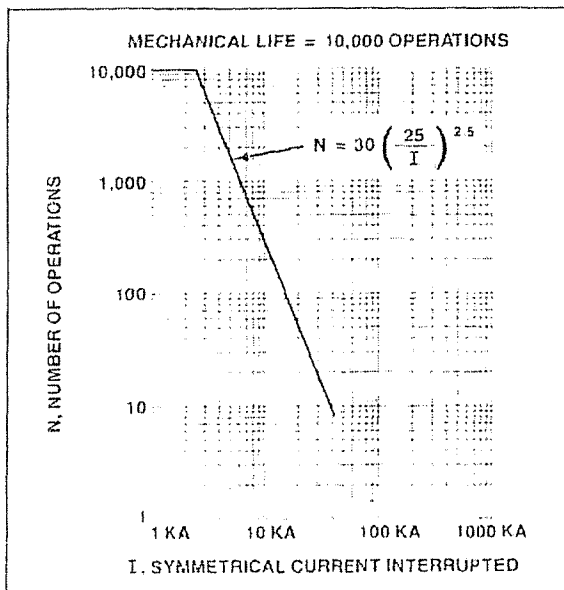

Figure 13
An operations counter counts the number of close-open cycles. The counter advances by one on the opening stroke. The breaker mechanism is capable of at least 10,000 close-open cycles, however, the life of the interrupters can be considerably less depending upon the amount of current switched with each operation. See Figure 13 for specific life-load information.
4.1.2 ARCING CONTACT WEAR - The breaker life is primarily limited by arcing contact wear. The rate of contact wear is affected by closing currents, interrupted currents, and other related factors. Applications such as capacitor switching tend to expend contact tip materials upon closing on the circuit whereas other applications might cause wear upon interruption of the current. To an extent, life-load performance is predictable. Figure 13 is provided to be used as a guide to predict arcing contact life, based only upon interruptions of symmetrical currents. Closing on high currents as well as asymmetrical interruptions will significantly shorten the life.